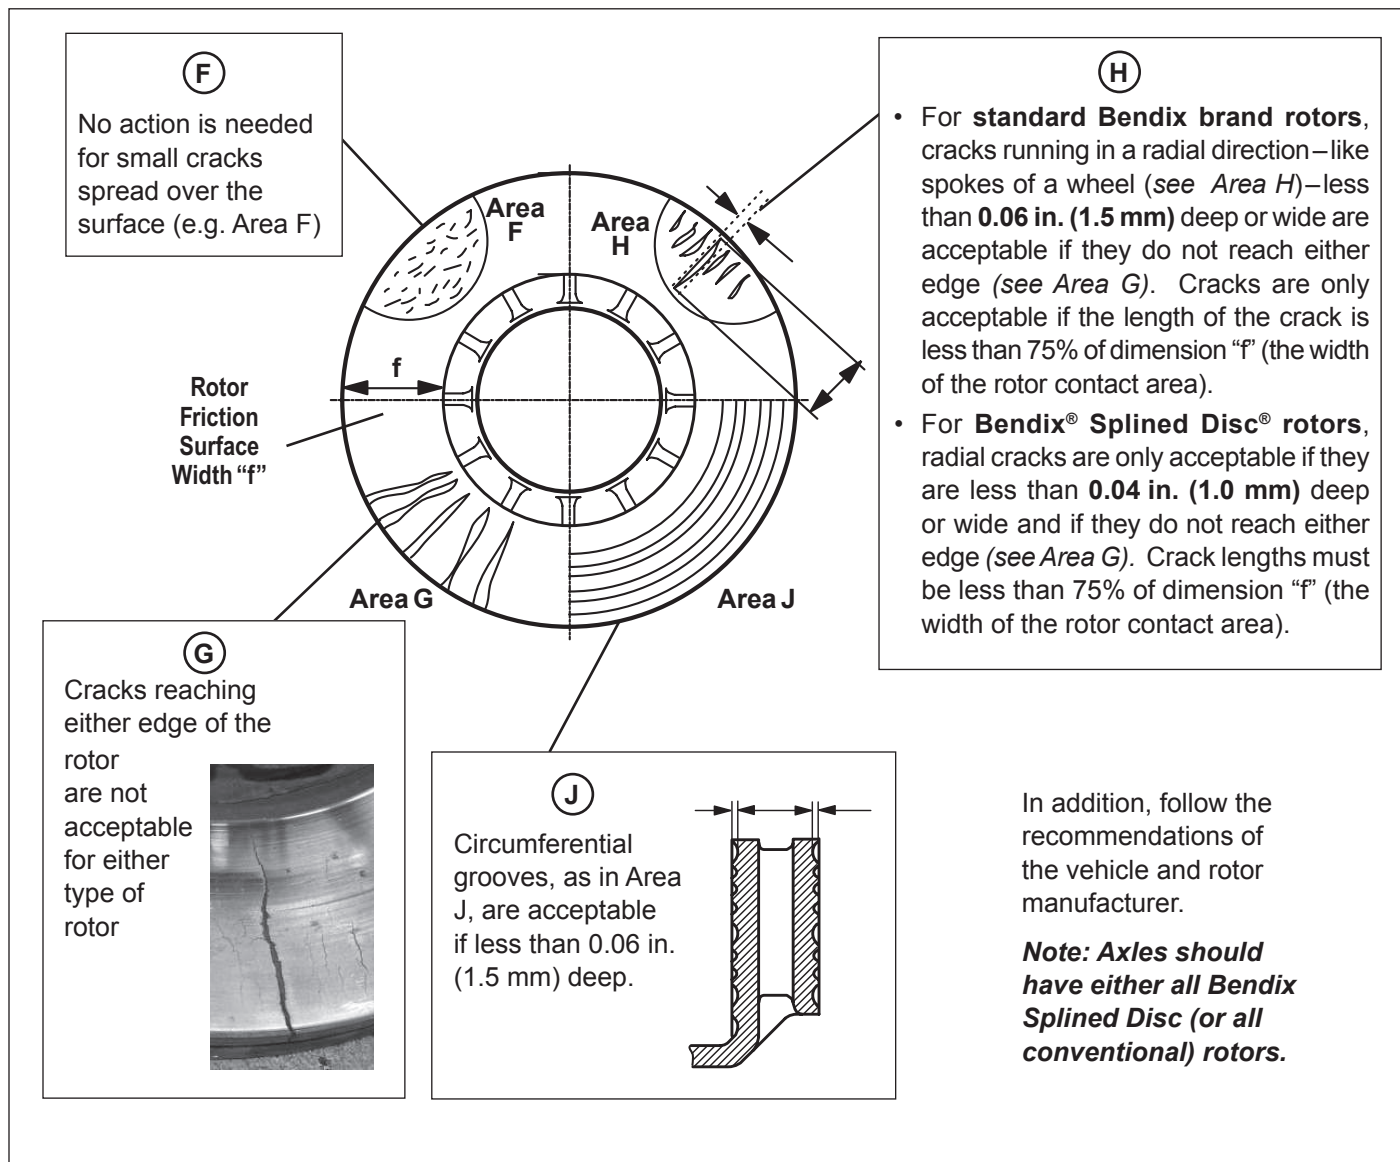

Figure 25 – Examples of Acceptable and Non-acceptable Rotor Conditions
4.4.2 Inspect the rotor surface. See Figure 25. The type of rotor, and also the size, depth and direction of the imperfections, must all be considered.